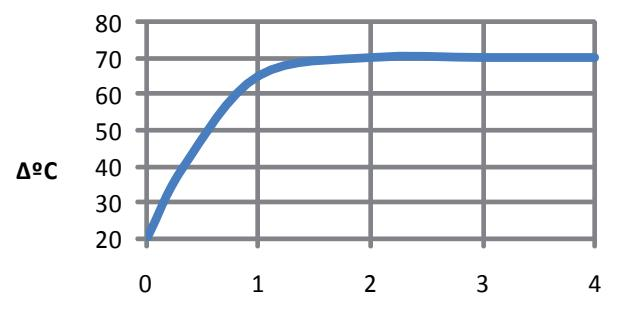

Fig.2
- * The increase in the external non-metallic parts varies between 45°C and 60°C, above the environmental temperature at full load (Fig. 2), nevertheless, there are many means to reduce this temperature, such as an oil bath, fan cooling, although these systems are usually used in high-power variators.